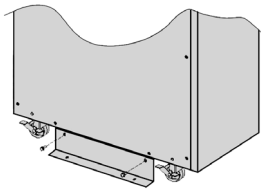

Fig. 4.
- Remove the screws that join the piece to the pallet and device [see Fig. 4 and 5].